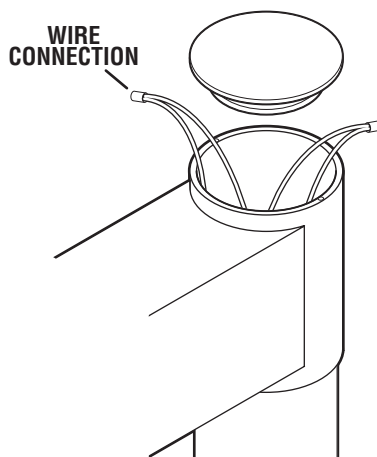

Figure 20. Bulb Voltage Test
- a. Remove top cover from VST and test bulb voltage at the wire connections. Turn main power "ON" and set the Dimmer Control for the lighthouse being tested to maximum intensity for the test. Output voltage (at the connectors) should be $20V \pm 0.2V$. See figure 20.